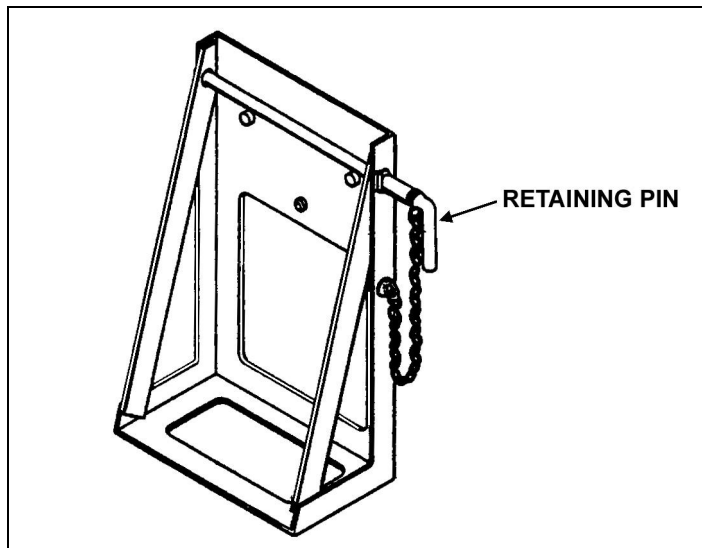

Figure 3-18. Bracket mounting assembly.
(6) **Bracket Mounting Assembly.** This assembly supplies a mount for the M548 metal ammunition container. It has a metal frame that attaches to the gun cradle, and a retaining pin that inserts through the top-inner end of the M548 ammunition container (Figure 3-18).